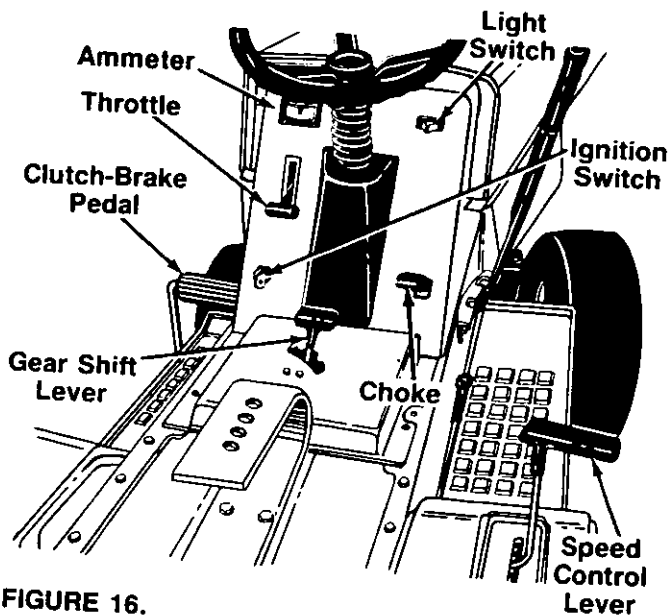

FIGURE 16.
The throttle control is used to regulate the engine speed. To get maximum efficiency from cutting, the throttle should be in the FAST position when operating the mower. See figure 16.
The choke control is located on the dashboard and is operated manually. Details for the choke operation are covered in the separate engine manual packed with your unit. See figure 16.
The shift lever is located on the left side of the console and has three positions, FORWARD, NEUTRAL and REVERSE. See figure 16. The clutch-brake pedal must be depressed and the lawn tractor must not be moving when shifting gears. Do not force the shift lever. Release the clutch-brake pedal slightly to line up the shifting collar in the transmission. Then try to shift gears.
Turn the key to the START position to start the engine. When the engine is running, let the key return to the ON position. To stop the engine, turn the key to the left to the OFF position and remove it to prevent accidental starting. See figure 16.
Push the light switch to turn on the lights. The lights will only operate when the engine is running. See figure 16.
The ammeter registers the rate of battery charge or discharge. The ammeter will register on the discharging side when starting the engine. It should register on the opposite side (charging) when the engine is running in the fast position until the battery is completely charged. With a fully charged battery or with the engine idling, the ammeter will not show a charge. See figure 16.
The clutch-brake pedal is located on the left side of the lawn tractor. Depressing the clutch-brake pedal part way disengages the clutch. Pressing the pedal all the way down disengages the clutch and engages the disc brake. See figure 16.
4. Set the throttle control in the FAST position. See figure 16.
6. Turn the ignition key to the START position. When the engine is running, let the key return to the ON position. See figure 16.